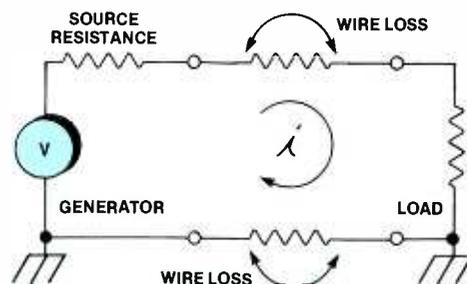

Figure 2. This circuit shows the addition of a source resistance and wire loss, which causes a voltage drop.
**Figure 2.** A view of the key input and background signals shows their interaction in different keyers. In the low-gain key, the window moves and changes size with clip setting.
Figure 2 shows a more realistic situation. Wires have resistance and, therefore, some loss. Generators are not perfect, and they too have losses. This internal loss is shown as a series source resistance in Figure 2. Most active devices are single-ended. Their inputs